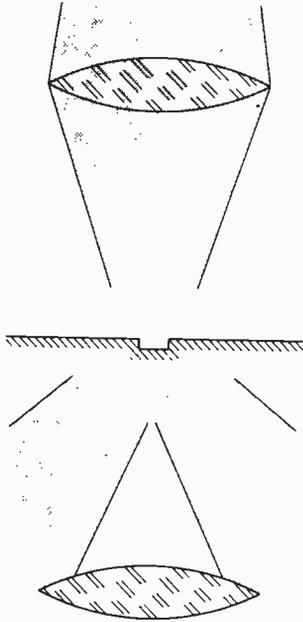
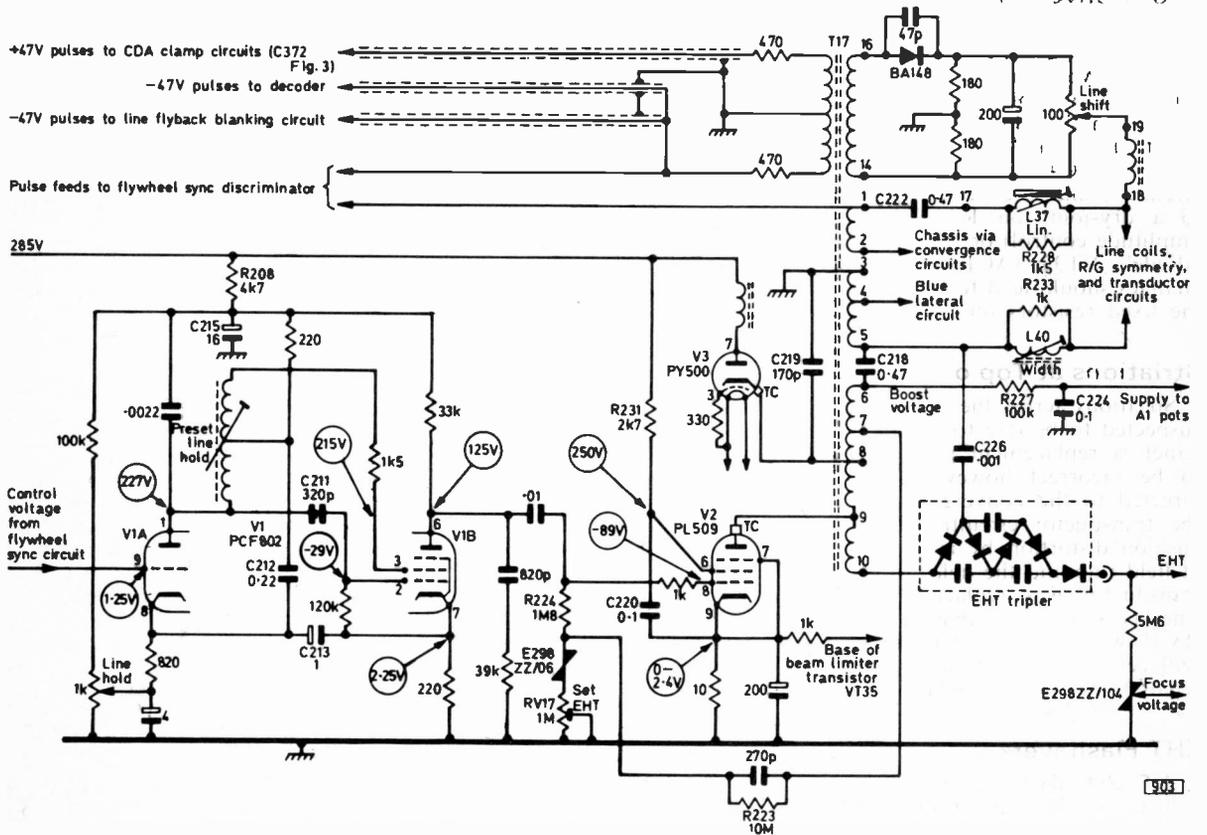

Fig. 1 (left): How the pits in the surface of the VLP disc modulate the scanning beam.
Fig. 2: Circuit of the line oscillator and output stages.
Fig. 2 (right): Simplified schematic diagram of the VLP playback system. The disc (1) is scanned from below by light from the helium-neon laser (2). Focus lens (3) is suspended in the same way as the cone of a loudspeaker, an automatic control system providing drive so that the focus remains correct. Pivoting mirror (4) is automatically controlled to keep the beam centred on the track. Prism (5) separates the incident and reflected light which is detected by the photodiode (6).
deflected by diffraction at the pit so that most of it is not reflected. This method of modulating the scanning light beam is demonstrated in Fig. 1. For clarity the system is presented as if the disc is transparent, with the beam incident from above and a second lens to receive the modulated beam placed beneath the disc. The pit is also shown many times enlarged with respect to the rest of the diagram.
The optical arrangements used in the VLP player are shown in simplified form in Fig. 2. The carriage can move backwards and forwards on rails beneath the disc (1). The light from the laser (2) is focused on to the disc by the lens (3). Control systems as outlined above act on the lens and the
The following faults have been experienced in the power supply/line timebase unit. Several will cause the mains fuse to blow. The h.t. rectifier going short-circuit will obviously cause fuse failure but it does not seem to be as troublesome on this chassis as on some. This is probably due to the VA1104 thermistor connected in series with the surge limiter resistor R306 (see Fig. 1). The thermistor has been known to fail however. The mains fuse will blow if C224 (see Fig. 2) which decouples the boost feed to the c.r.t. first anode preset potentiometers goes short-circuit—or sometimes leaky. In this event it will usually be necessary to replace the associated filter resistor R227 as well. Other capacitors which can go short-circuit and blow the mains fuse are the line output transformer tuning capacitor C219 and the boost reservoir capacitor C218. Failure of the line output transformer itself will also cause fuse failure in most cases.